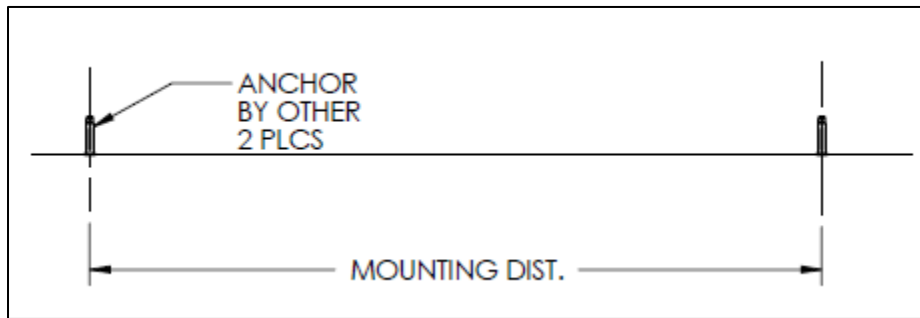

FIG.4- FIGURE SHOWING MOUNTING INFORMATION
2. Mark the location of the ANCHORS as per MOUNTING CHART INFORMATION (see table) and MOUNTING DISTANCE as shown in FIG. 4.